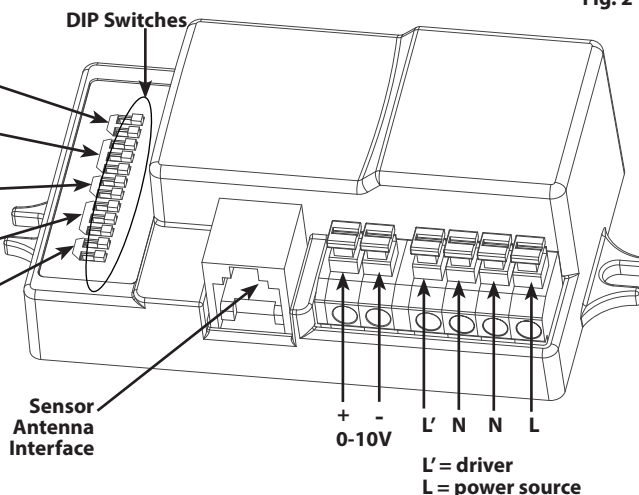

Fig. 2
2. Install **Nailer Bars** into wall box as shown in **Figure 2**.
4. Tighten 1 phillips head locating screw shown in Figure 2 to hold wall box in position on the **Nailer Bars**.
Switch positions referred to as R for right position and L for left position when looking at sensor in orientation shown in Fig. 2, in which all switches are R.